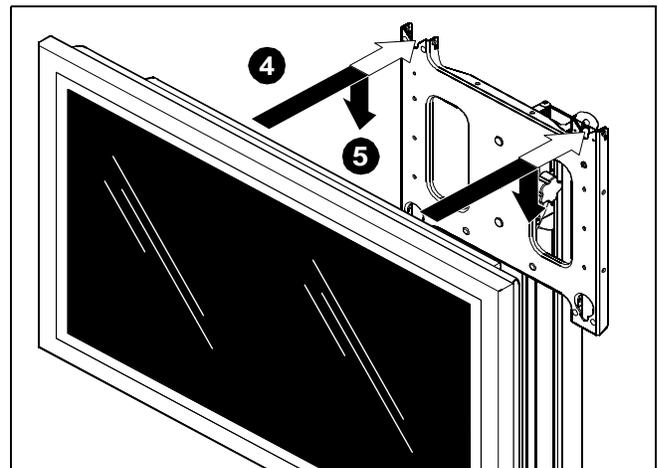
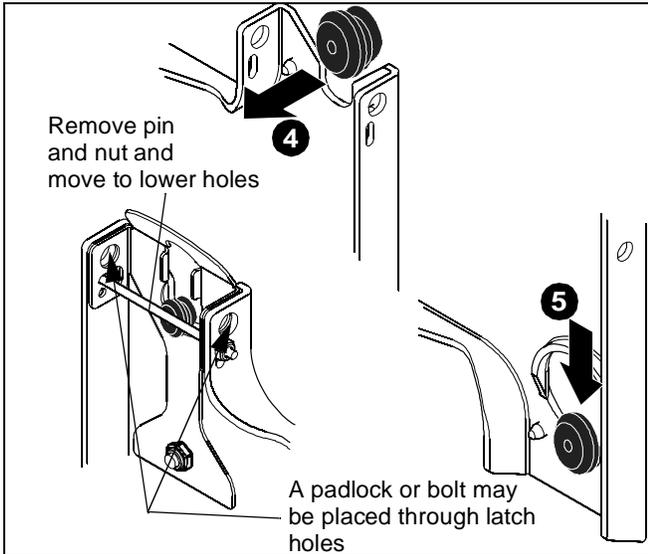

Figure 7
Figure 8
- While supporting both sides of display, align four mounting buttons on display or interface bracket with four mounting holes in head assembly. (See Figure 7) and (See Figure 8)
- Lower display into place listening for audible "click" to ensure recessed area of mounting buttons are properly seated in lower area of mounting holes. (See Figure 7) and (See Figure 8)
**NOTE:** Holes are provided in the faceplate for use with a padlock or similar locking device, if desired. In addition, the pin and nut may be removed from the upper holes and moved to the lower holes for use as a more permanent locking device. (See Figure 8)